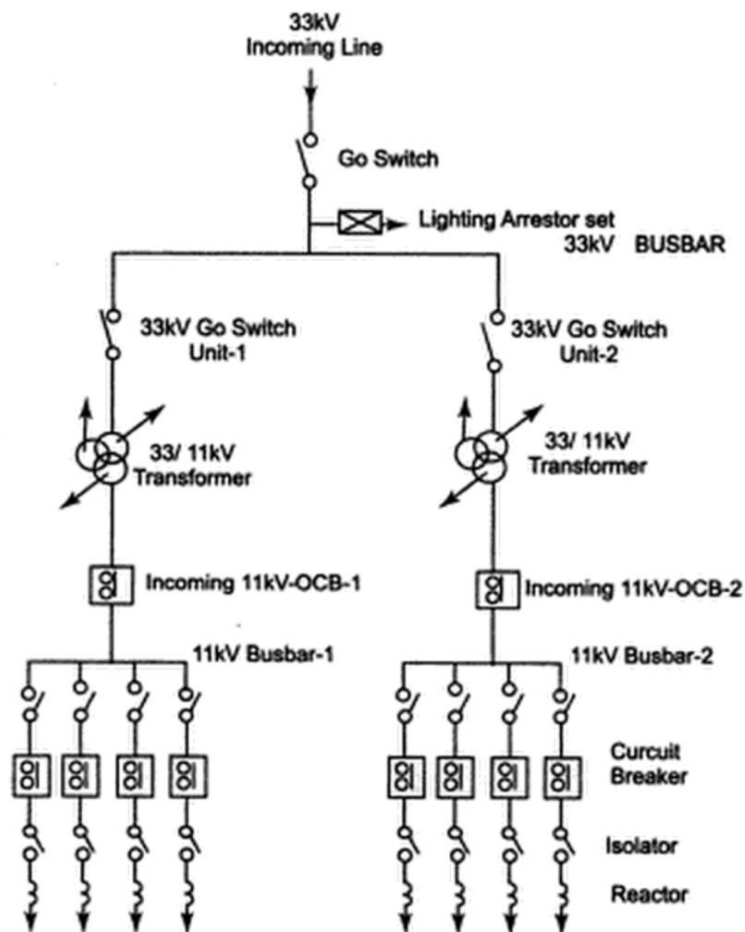

Figure 12.4: Line diagram of 33kV/11kV substation
12.4 Draw the electrical circuit diagram of Single Line Diagram of 33 kV/11kV substation as shown in Figure 12.4